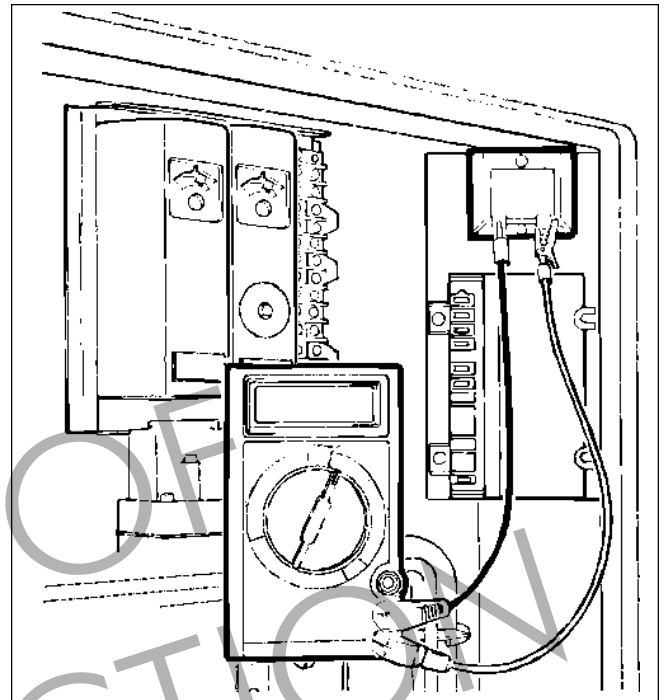

Figure 37. Testing the Transformer.
2. Touch the other lead to the red wire terminal (see Figure 37). The voltmeter should read 20 to 28VAC.